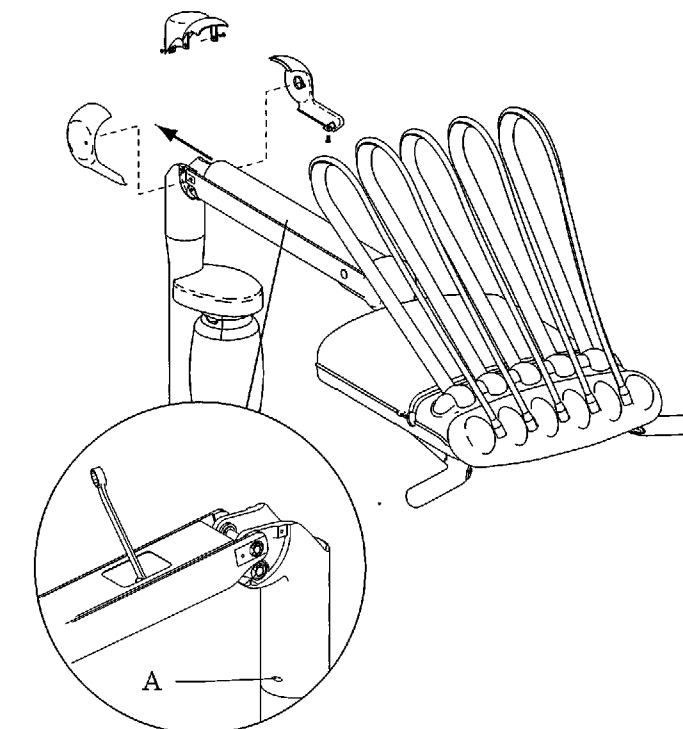

Figure 63. Adjusting the flexarm counterbalance. (A) setscrew
2. Adjust the rotation tension on the flexarm by tightening the setscrew (see Figure 63).